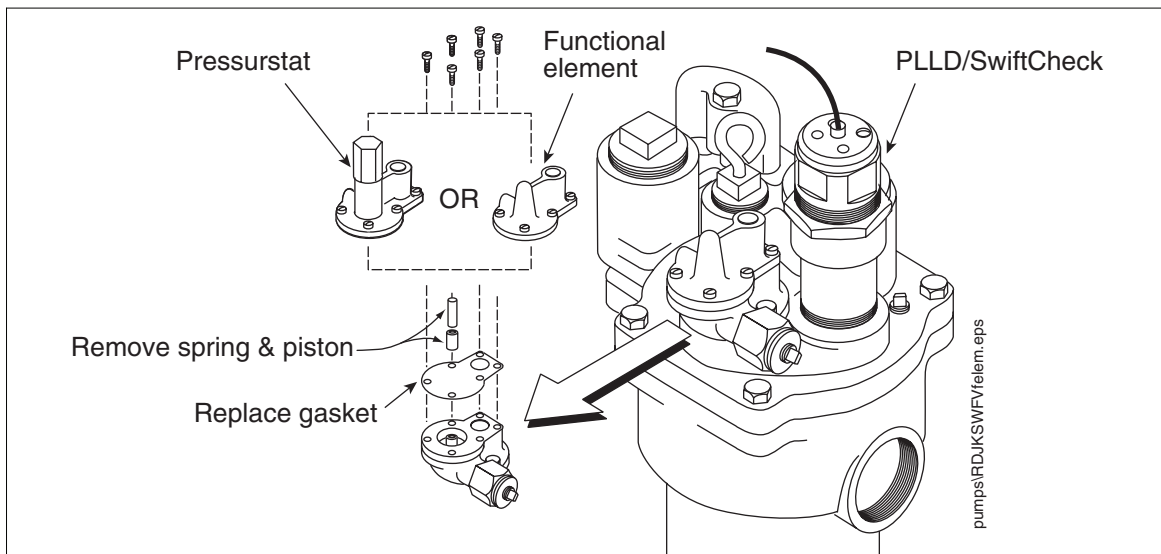

Figure 6. Modifying the pressurstat/functional element in Red Jacket pumps
10. The PLLD SwiftCheck valve eliminates the need for the pump's Pressurstat or functional element relief valve so it must be modified as part of the PLLD system installation. Remove the six 1/4-28 slot-head screws from the Pressurstat or functional element [Figure 6].